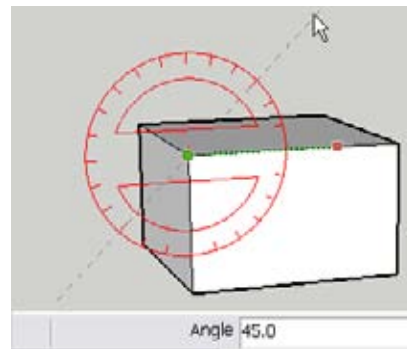

Figure 10-27
2. Move the mouse in the general direction you want for the line, type the angle you want, and press Enter (Figure 10-27). You can set the angle either before or after you click to create the construction line. Entering a negative angle places the construction line in the opposite direction from where you moved the cursor.